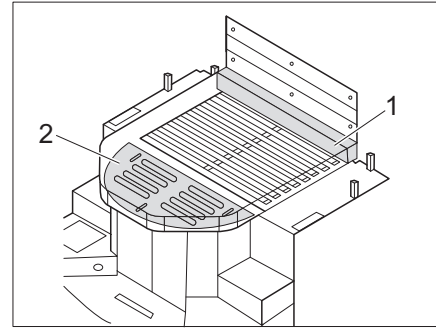

Fig. 183 Bed with mattress extension (with additional mattress and pull-out base)
- Place additional mattress (Fig. 183,1) on the front side of the queen bed.
- Pull out the pull-out base (Fig. 183,2).